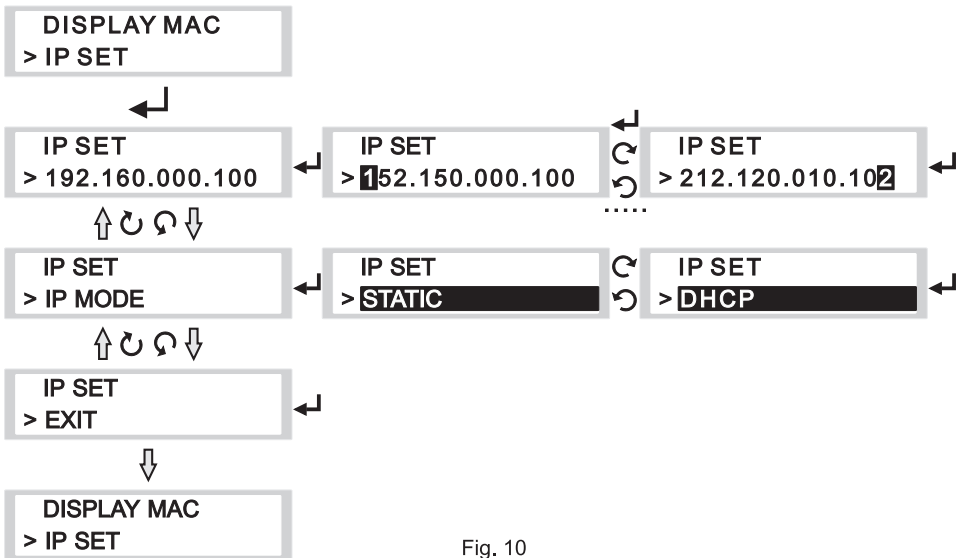

Fig. 10
- (1) Rotate the rotary control knob to "DISPLAY MAC" and press the knob again to how MAC address of MES-100. MAC address is different from different MES-100.
- (2) Press the rotary control knob again to return to the main screen.
## (B) IP SET Operation, Fig. 10: